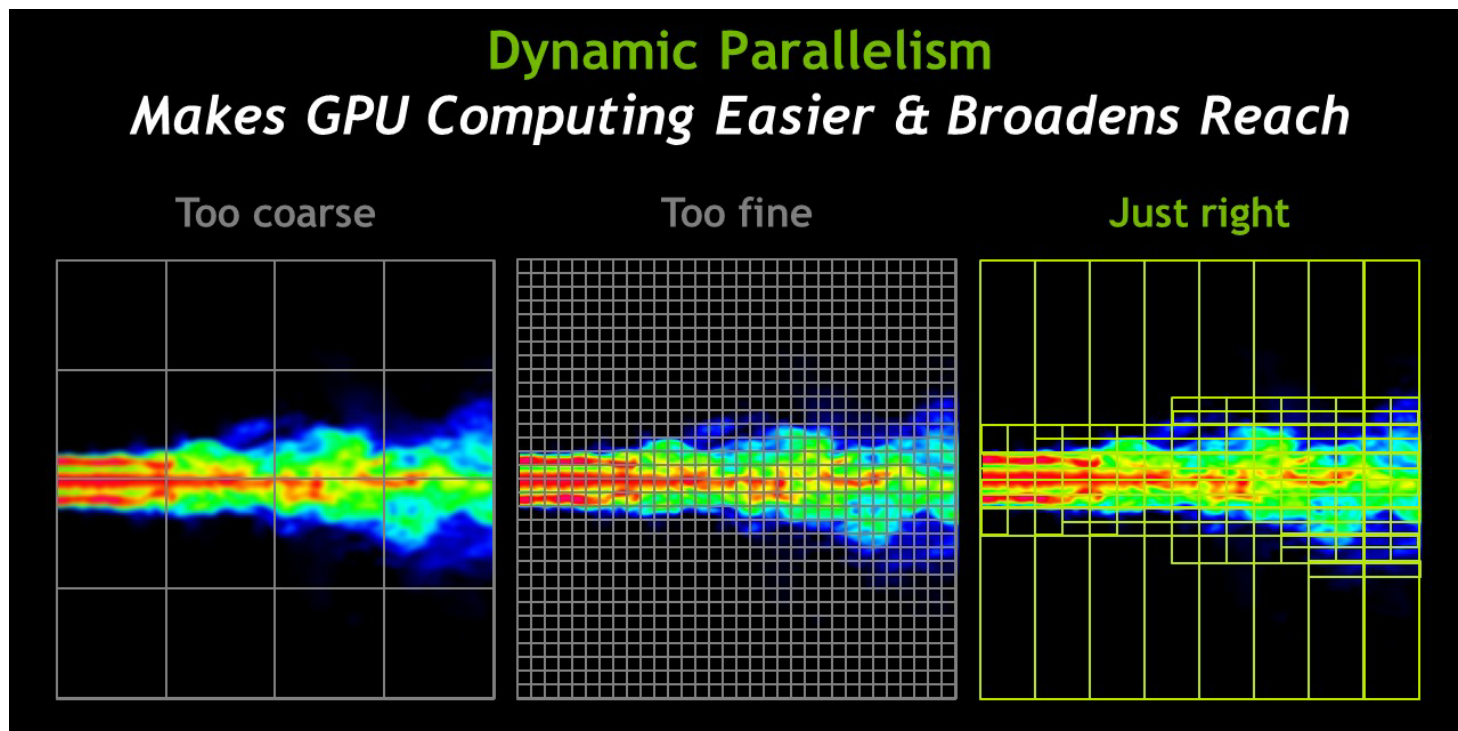

Figure 8. Dynamic Parallelism
- Figure 8. Dynamic Parallelism